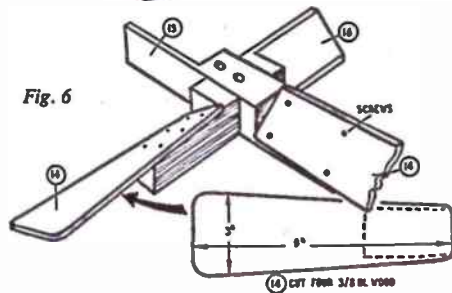

Fig. 6
To make the blades, cut out four pieces (14) to the approximate shape shown in Fig. 6. The material should be 1/4 in. thick. Fix securely to the sails by means of small screws.